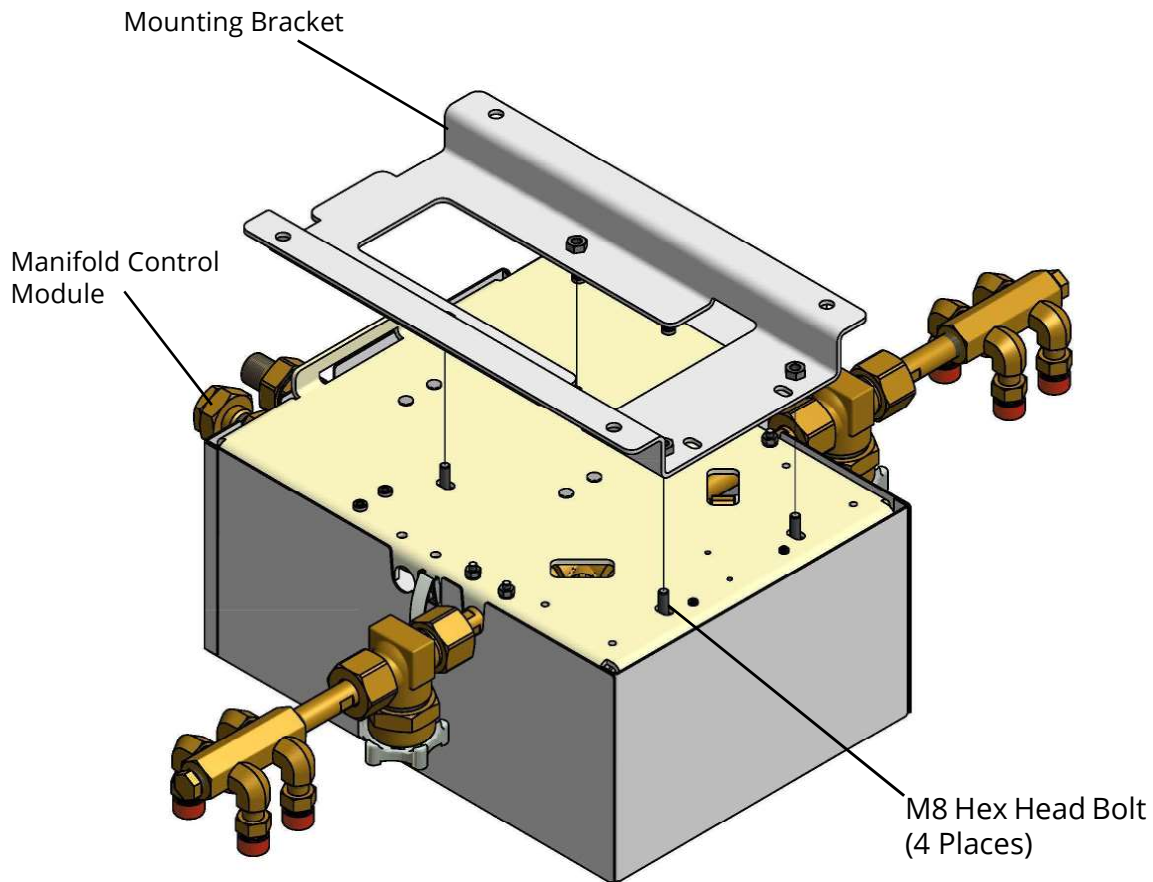

Figure 1
3. Remove the four M8 hex head bolts from the mounting bracket as shown in Figure 1.